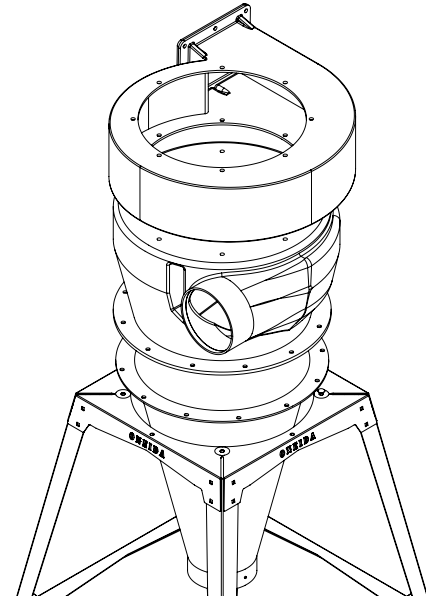

FIG. 5
Lift the Fan Housing (B) onto the Barrel (C), making sure it is oriented so that the molded “UP” text is visible. Align the housing’s holes with the holes in the barrel and keep in mind the direction you want your outlet to face. [FIG 5].